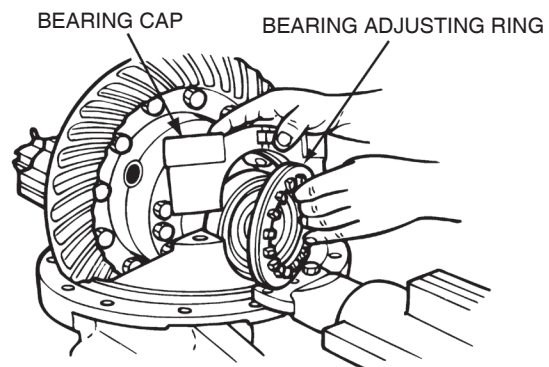

Figure 3.44
6. Remove the bearing caps, adjusting rings and bearing caps from the differential. Figure 3.44.